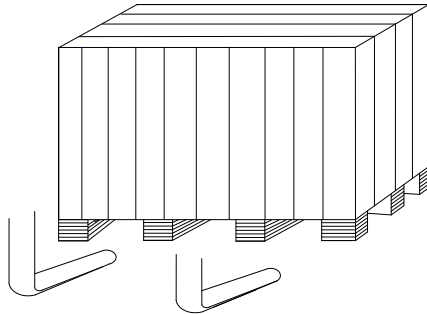

Fig. 1.
- After making sure that the crate package of your machine is free of damages, transport and position the machine to the preferred installation location site, as shown in **Fig. 1**.